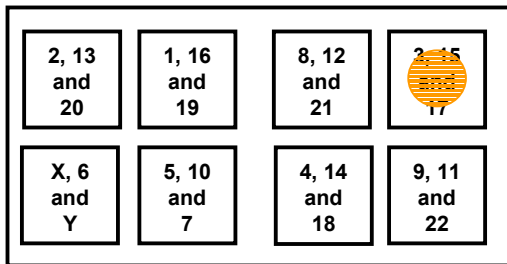

Figure 1. Location of whole chromosome painting probes on OctoChrome device squares.
- i. Carefully invert the template slide over the OctoChrome device such that the number 1, which is now upside down, is located over the top right hand area of the OctoChrome device (Figure 1).